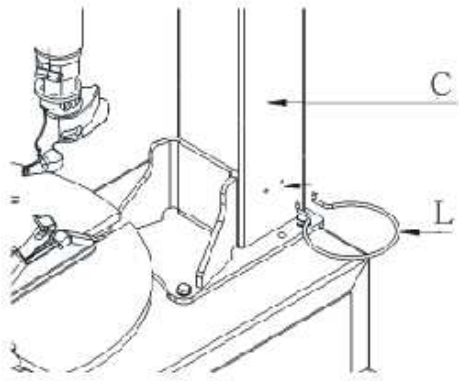

Fig.5-d
- As fig.5-d, put ring L terminals into $\phi 5$ holes on the right of the post C.